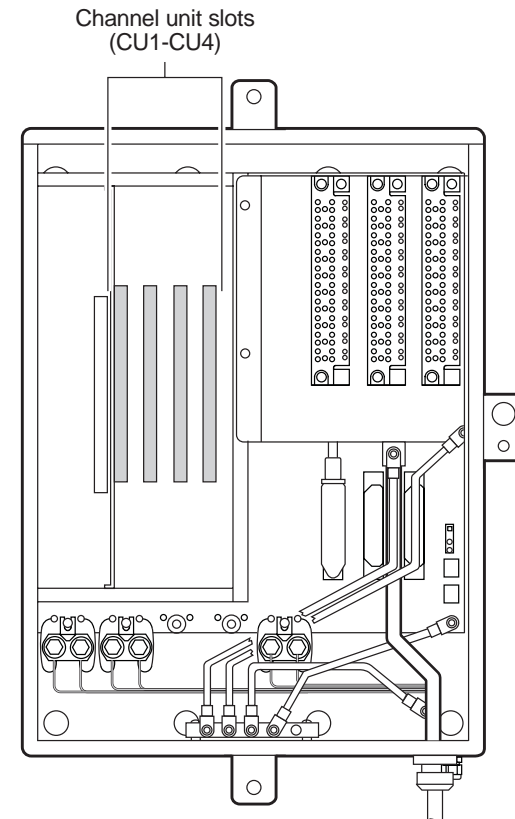

Figure 1. Channel Unit Slots CU1 - CU4
- 1 Slide the FSU-796 List 5 into the RT enclosure channel unit slot to be tested until the retaining latch on the front panel locks into position. (Refer to Figure 1 for the channel unit locations.)